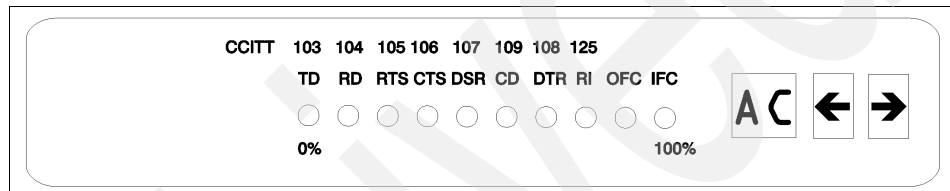

Figure A-1 RAN front view
2. When P1 is displayed on the front panel seven-segment LED display, press the Left Arrow button once (see Figure A-1). The current node number is displayed (for example, 1n for node 1).